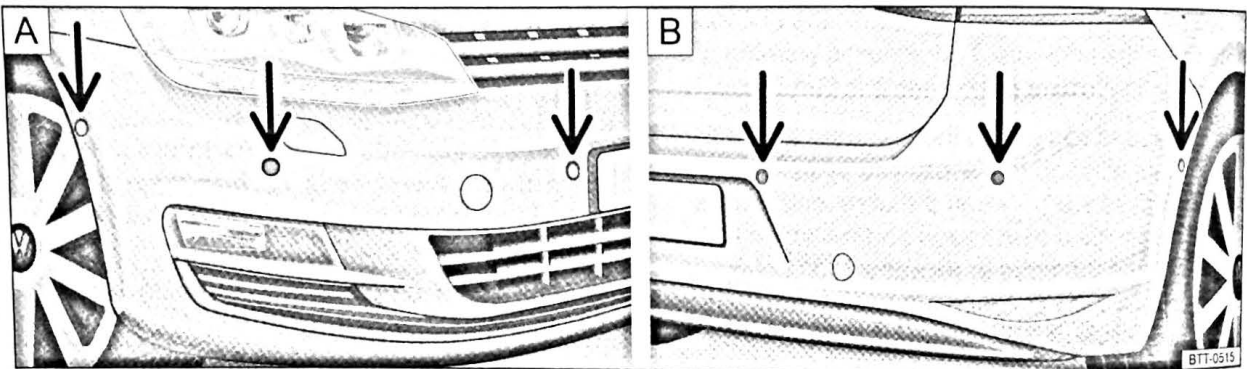

Fig. 147 ParkPilot ultrasound sensors around the vehicle, A: in the front bumper, B: in the rear bumper
The ParkPilot uses ultrasound sensors to determine the distance between the front and rear bumpers and an obstacle. Up to 6 ultrasound sensors for the ParkPilot (arrows) are located in both the front (A) and rear (B) bumpers ⇒ Fig. 147.